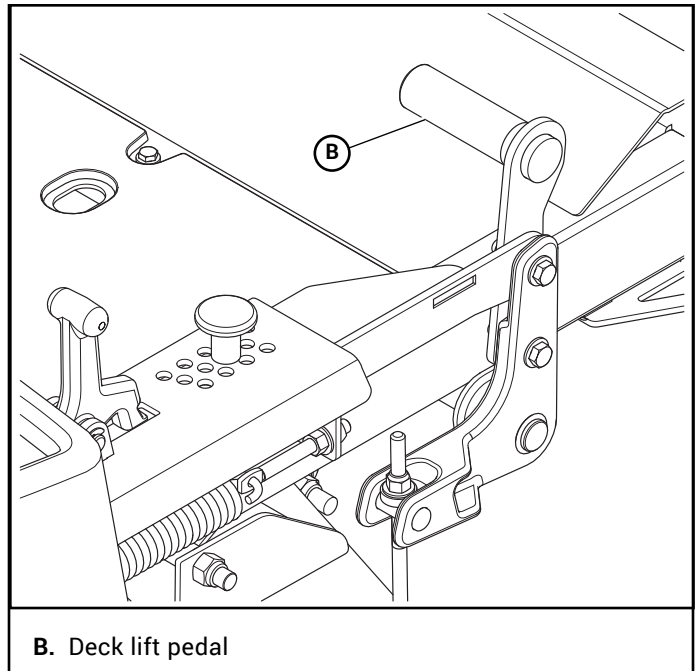

Figure 3-5
B. Deck lift pedal (Figure 3-5) – the deck lift pedal is used to raise or lower the deck. Push on the pedal to raise the deck and then place the adjusting pin into the desired cutting height hole. Release the pedal.